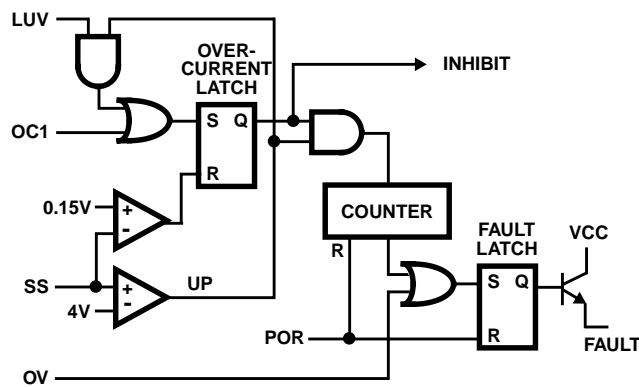

FIGURE 4. FAULT LOGIC - SIMPLIFIED SCHEMATIC
Figure 4 shows a simplified schematic of the fault logic. An over-voltage detected on V_{SEN1} immediately sets the fault latch. A sequence of three over-current fault signals also sets the fault latch. The over-current latch is set dependent upon the states of the over-current (OC), linear under-voltage (LUV) and the soft-start signals. A window comparator monitors the SS pin and indicates when C_{SS} is